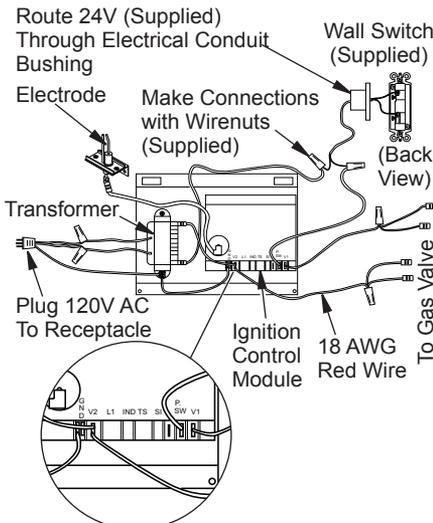
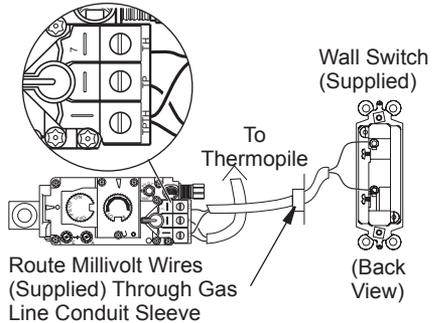

Figure 34 - Wall Switch Wiring Diagram, Electronic Units
Figure 35 - Wall Switch Wiring Diagram, Millivolt Units
Since the (V)DVf36TPNEA/TSTEA series uses a 24 VAC current supplied from a transformer mounted on the ignition module and is prewired for easy connection to a wall switch (see Figure 34). The (V)DVf36TPNA/TSTA models use a self generated millivolt current that allows you to activate the gas control valve directly without the use of normal household electricity (see Figure 35). Both versions are supplied with a wall switch kit for ready connection and mounting.
2. If a wall switch was installed, it must be removed from ignition control circuit for remote to work properly. Remove wire nuts from switch connection at ignition control module. Using wire nut, connect transformer (blue) wire to remaining wire connected to control terminal marked P.S.W (see Figure 34, page 21).